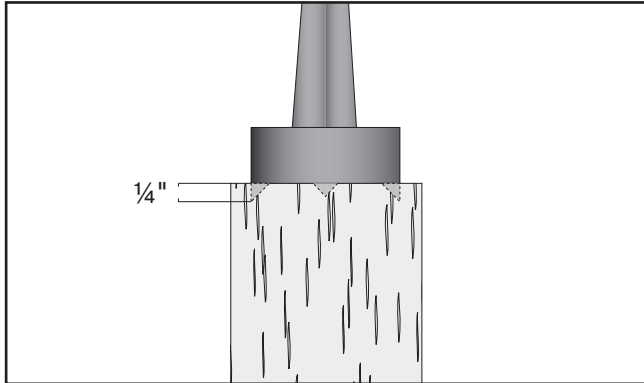

Figure 29. Spur center properly embedded.
6. Drive spur center into end center mark of workpiece with wood mallet to embed at least $\frac{1}{4}$ " into workpiece, as shown in **Figure 29**.